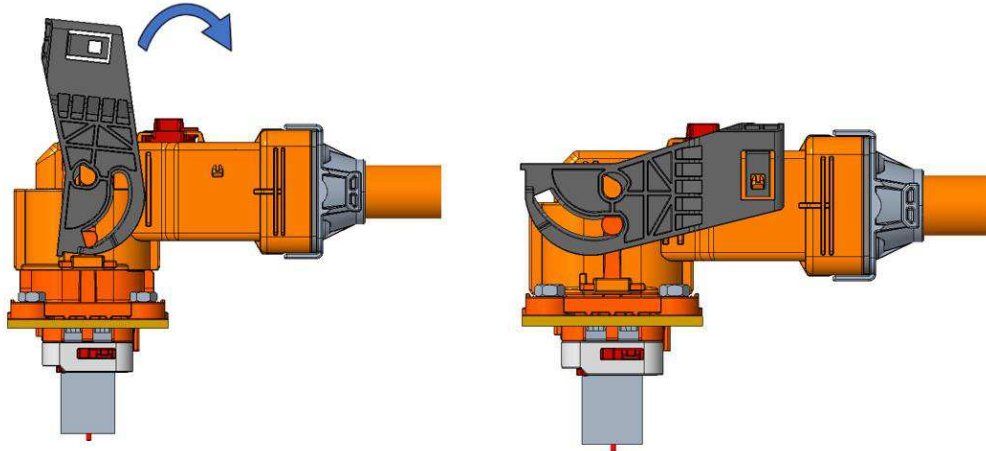

Figure 19: Lever Actuation from Open to Close
3. Rotate the lever towards the connector body until it is completely in the closed position as shown in Figure 19.